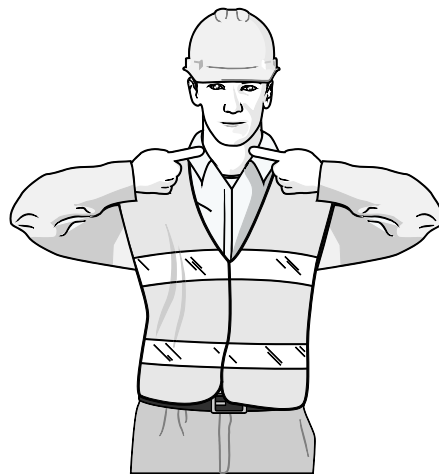

Figure 3-115
12. Perform this signal to indicate Move Both Forks In or Tophandler Into 20' Position (see Figure 3-115).